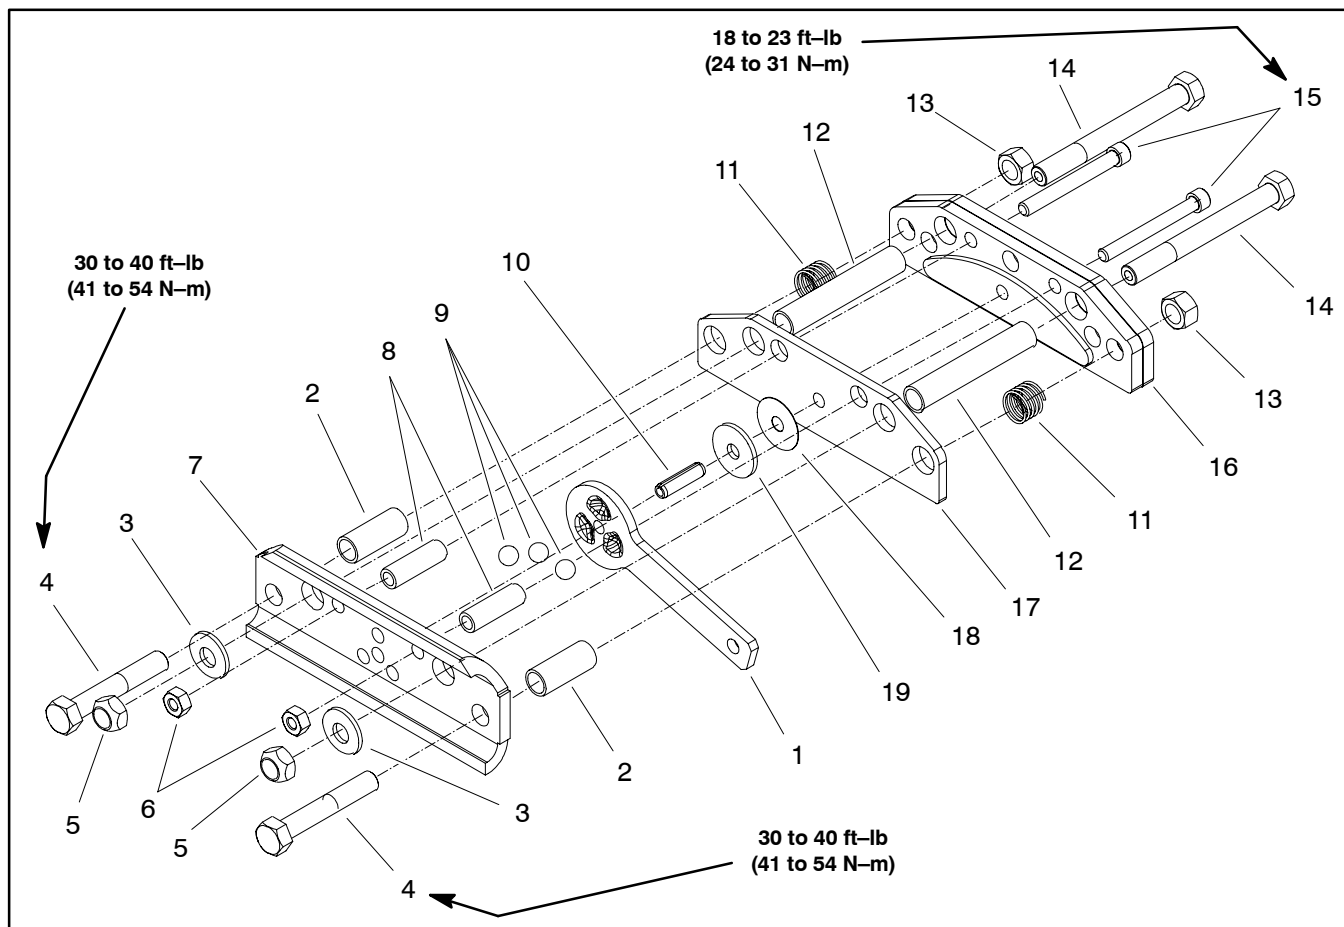

Figure 8
Disassembly (Fig. 8)
Assembly (Fig. 8)
2. Assemble brake components in order using Figure 8 as a guide.
3. Secure brake assembly with hex bolts (item 4), socket head screws (item 15) and hex nuts (items 5 and 6). Torque fasteners to values identified in Figure 8.